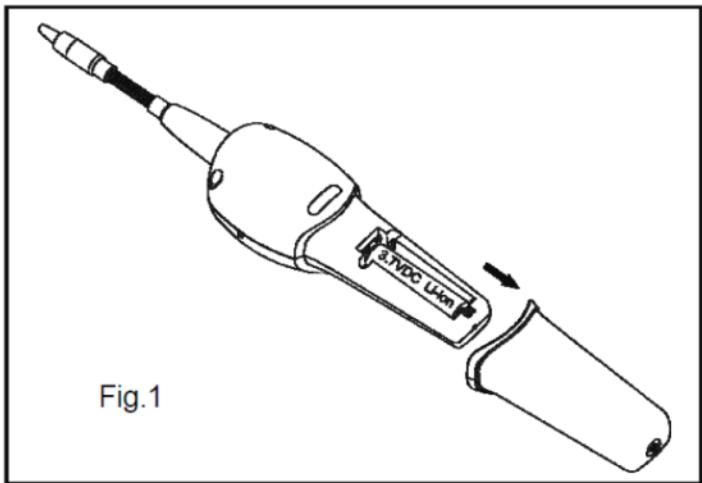

Fig.1
- Loose the screw and remove the battery compartment door located on the bottom of the instrument as shown below (Fig. 1).